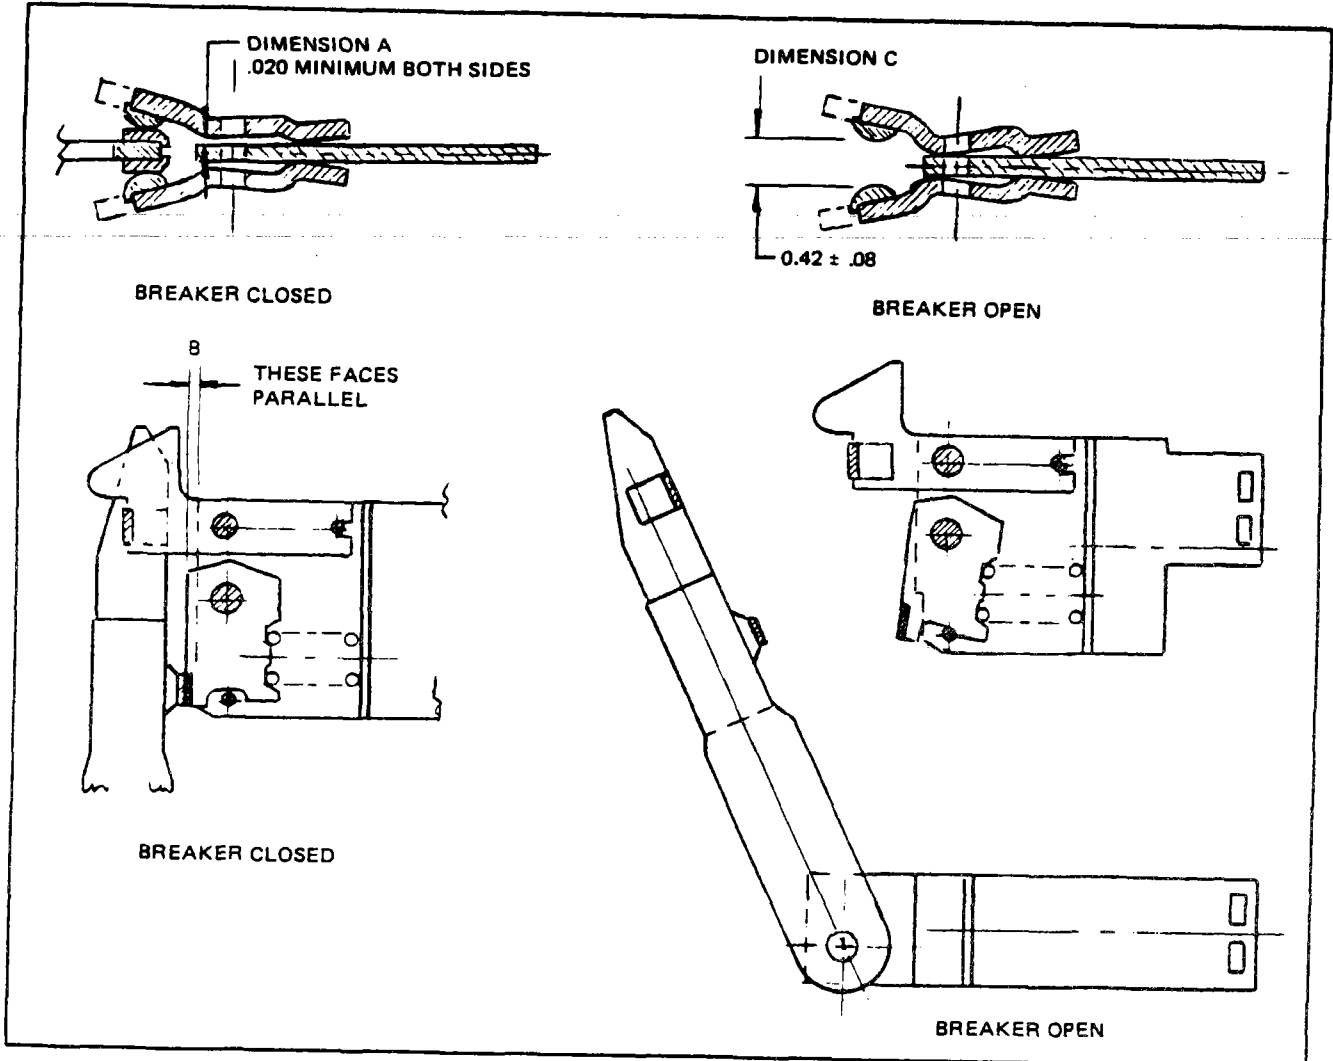

Fig. 84 Contacts and their Adjustment, DS-206 Breaker
With the breaker open, examine the contact tips of moving and stationary arcing and main contacts. If the tips are burned or worn more than .030", the contacts must be replaced. Also check the dimension (C) between the stationary arcing contacts (Figures 84 and 85). It should be  $.42 \pm .08$ . If this dimension is not maintained, the stationary arcing contacts must be replaced.
Close the breaker and check the contact engagement according to Figures 84 and 85. The main stationary contact fingers should be parallel (B) to the fixed contact cage. If not, adjust the contacts according to 12.2.3. Also check the dimension (A) between the stationary arcing contacts and the center section of the cage. If this dimension is not .02 inches or greater, the stationary arcing contacts should be replaced.